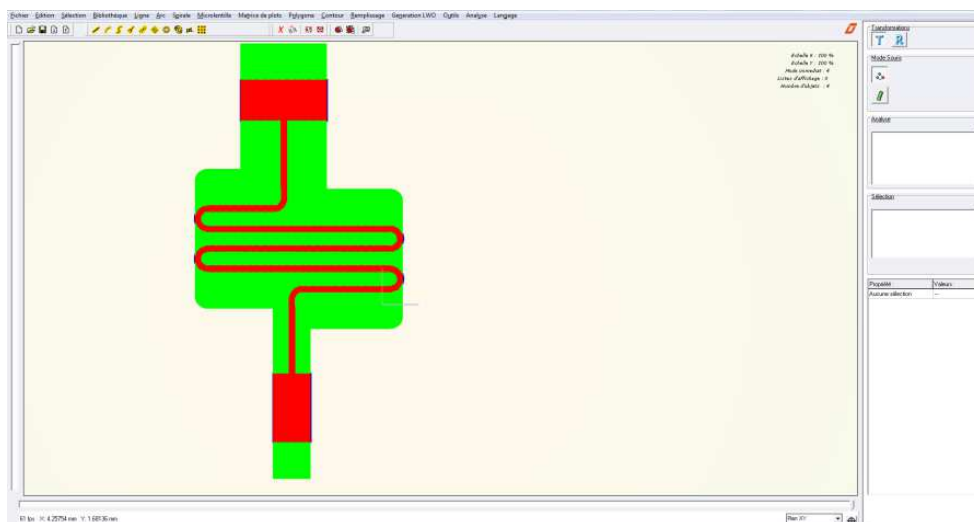

Fig 14 : Displaying of the calculated filling
- The graphic panel displays the computed trajectories (Fig 14). The red lines represent the trajectories during which the laser is on, the green lines the ones executed by the stages but with the laser off.